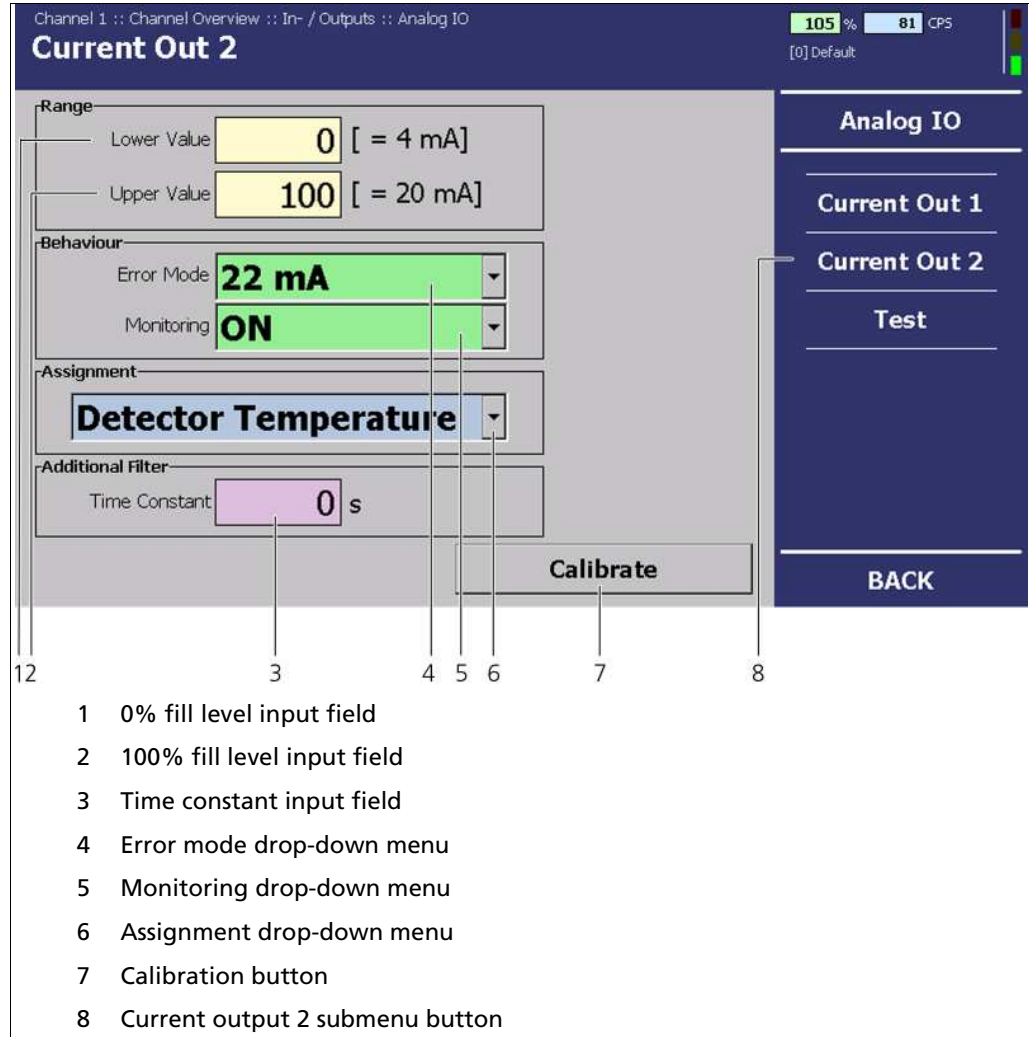

Fig. 65 "Channel Overview" menu, In/Outputs - Analogue IO (Current Output 2)
1. In the "Channel Overview" menu, click on e.g. In/Outputs | Analogue IO | Current Output 2 (Fig. 65, Pos. 8).
Do not activate the "monitoring" (Fig. 65, Pos. 5) until the measurement has been fully wired. By doing so you will avoid the error alarm.
2. Click on **<Calibration>** (Fig. 65, Pos. 7).